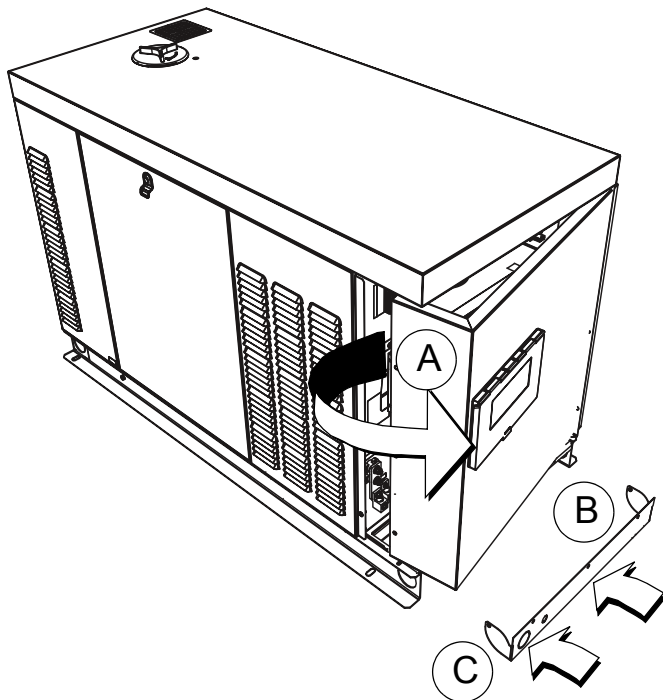

Figure 5-1. Remove Rear Panel and Stub Up Cover
1. See Figure 5-1. Remove six screws with nylon washers to release rear panel (A) from enclosure. For best results, rotate left side of panel outward away from enclosure before disengaging the right side.
The illustration in Figure 5-1 is for reference only. Refer to the installation drawings for unit-specific details.
NOTE: Remove knockout plug and route accessory wiring to customer supplied weather-proof junction box. See Figure 5-1. Verify wires do not contact moving or vibrating engine parts, as abraded wires can result in electrical problems.